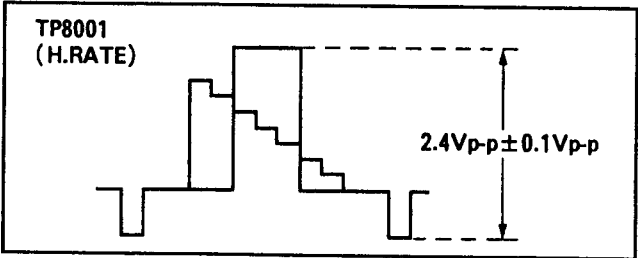

Figure E10
- 5. Adjust VR3003 so that the level is 2.4Vp-p ± 0.1Vp-p as shown in Figure E10.